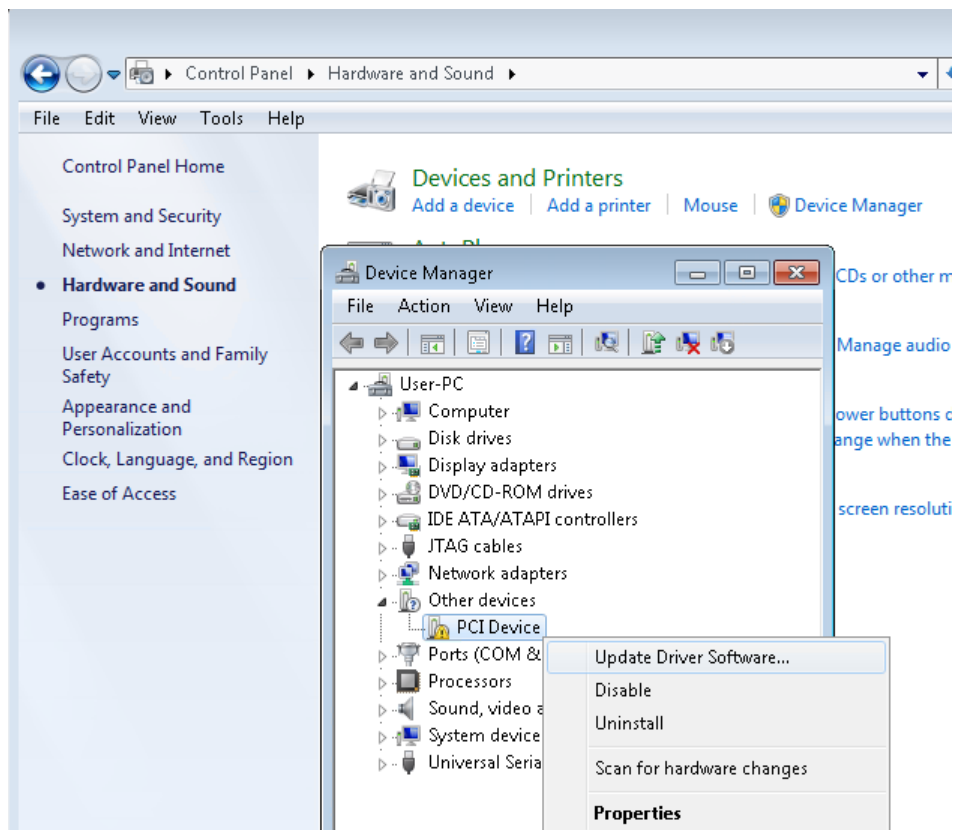

Figure 5-4 Screenshot of launching Update Driver Software... dialog
8. Click Control Panel menu from Windows Start menu. Click Hardware and Sound item before clicking the Device Manager to launch the Device Manager dialog. There will be a PCI Device item in the dialog, as shown in **Figure 5-4**. Move the mouse cursor to the PCI Device item and right click it to select the Update Driver Software... item.